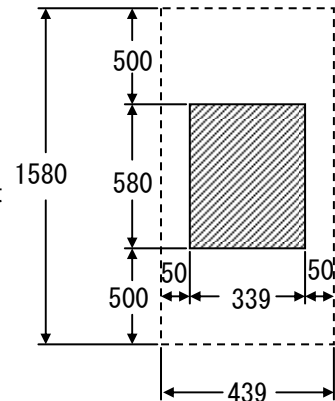

Figure 3-1 Maintenance Space (unit:mm)
- 3.The compressor must be installed in a place as shown in Fig.3-1 that is easy to inspect the pressure gauge, operate helium charging valve, and replace adsorber.